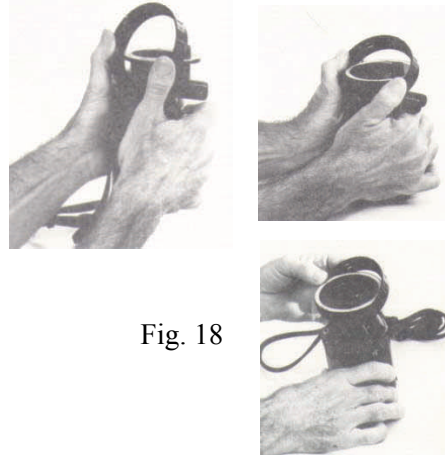

Fig. 18
4. Hold the jar ring against the side of the main casting. (Fig. 18)